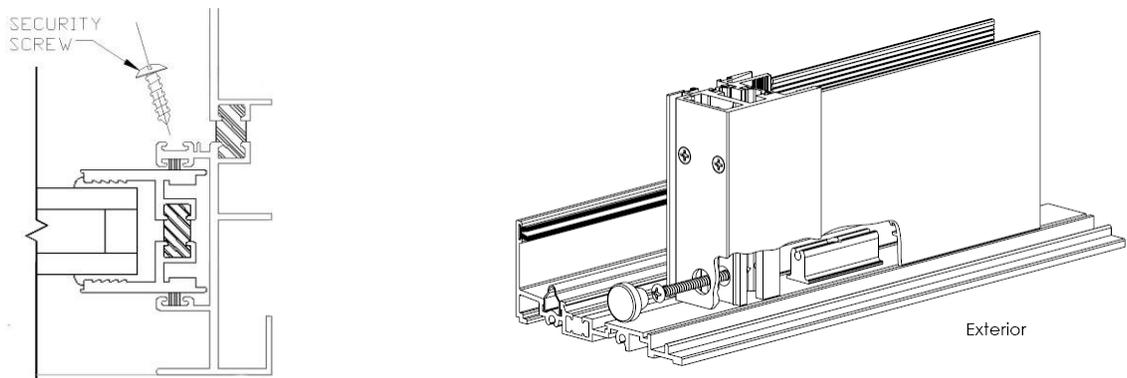

**Figure 24:**
1. Add 2” long sill block and secure with #8 x 3/4” long pan head self tapping screw to the bottom of sill as shown in Figure 24. Remove and set aside the screw that is provided with the sill block for step 3.